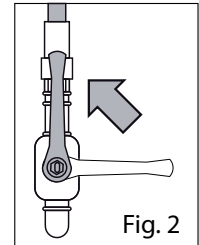

Fig. 2
- Open the cut-off cock upstream the equipment (Fig. 2);
- Reassemble the screw with gas seal washer in the appropriate seat, open the cut-off cock upstream the machine (Fig. 2) and check by turning the burner on, that there are no gas leakages.
- Demount if necessary, the plugs in order to avoid to damage it during the injector replacement (Fig. 2).